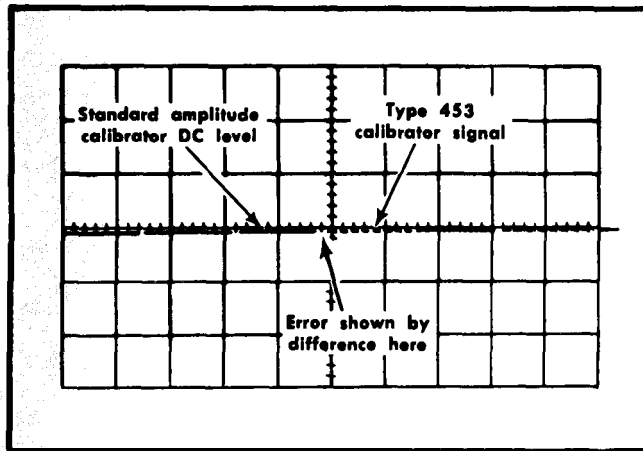

Fig. 5-31. Typical CRT display when checking voltage output of calibrator.
- g. CHECK-Difference between the standard amplitude calibrator output level and the Type 453 Calibrator output is 0.1 division or less (one volt output, $\pm 1\%$; see Fig. 5-31).
- k. CHECK-Difference between the standard amplitude calibrator output level and the Type 453 Calibrator output is 0.1 division or less (0.1 volt output, $\pm 1\%$; see Fig. 5-31).